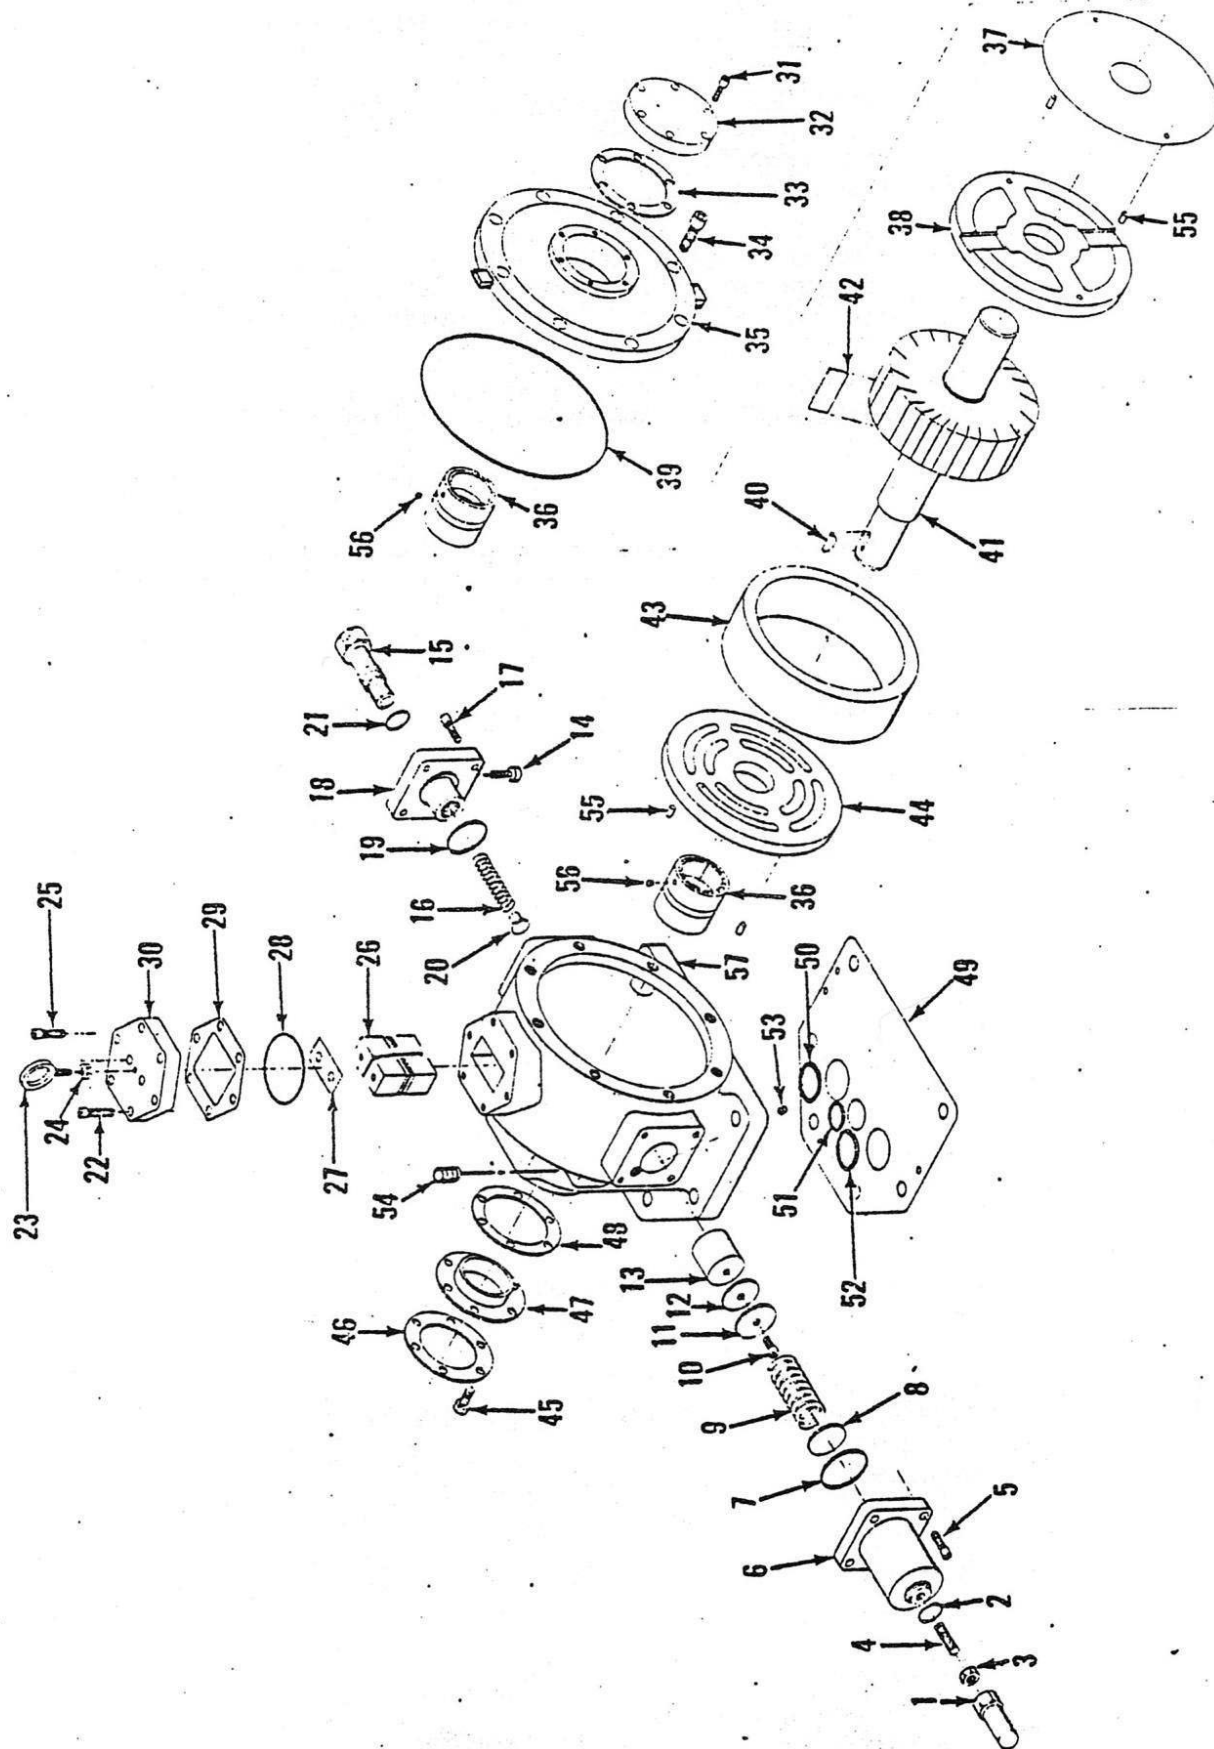

Figure 3-81. Main Hydraulic Pump
3.40 MAIN HYDRAULIC PUMP (FIGURE 3.81)
3.40 MAIN HYDRAULIC PUMP (Figure 3.81)CONT'D
Legend for Figure 3-81. Main Hydraulic Pump